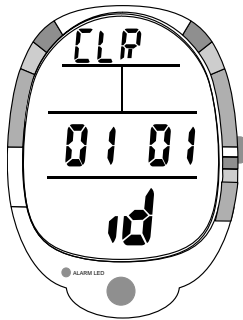

Fig. 87 - Clear (Reset)
**WARNING: If the CLEAR (Reset) screen appears (Fig. 87) on your computer, cease all operation of the computer buttons and wait at least 24 hours before resuming diving activity.**